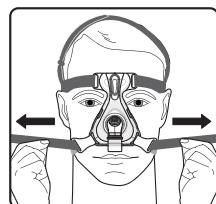

Figure 5
3. Evenly adjust the lower straps (Figure 5) to a comfortable position by using the tabs on both sides of the headgear. If using the optional clips, the lower headgear tabs will attach near the back of the head. If using the headgear, the tabs will attach under the ears. Do not pull the straps tight.